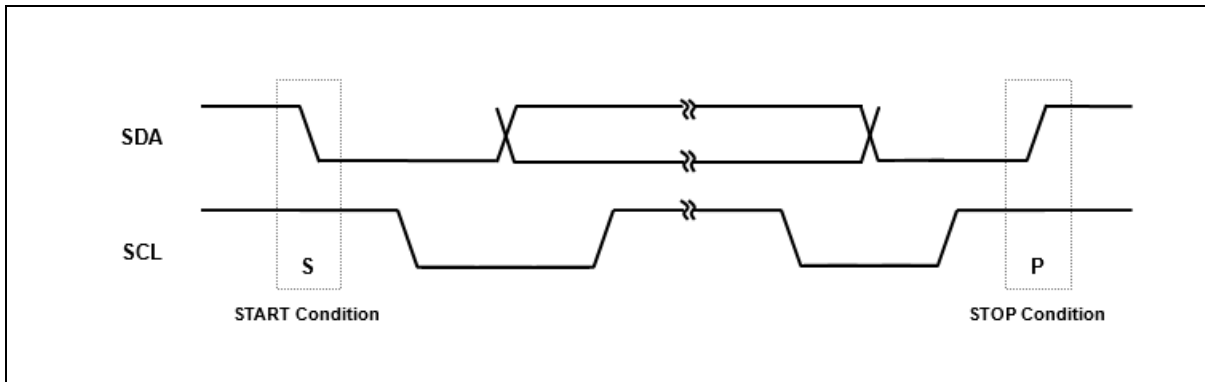

Figure 87. START and STOP Conditions (n = 0 and 1)
Within the procedure of the I2C-bus, unique situations arise which are defined as the START(S) and STOP(P) conditions (refer to Figure 87):
- An "H" to "L" transition on the SDA line while SCL is "H" is defined as the START(S) condition.